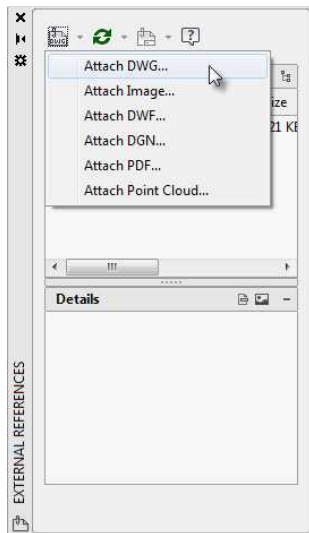

FIGURE 13.12: The Attach DWG button on the External References palette
5. Click the Attach DWG button in the palette toolbar, as shown in Figure 13.12.